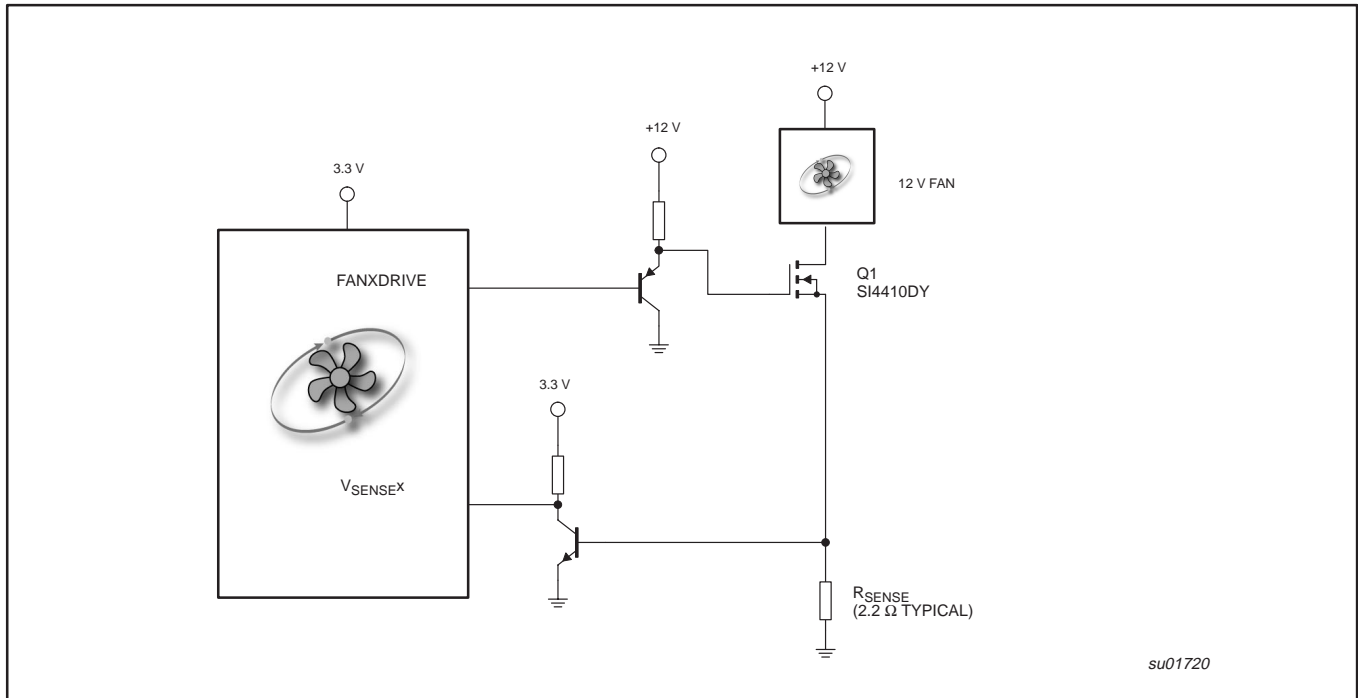

Figure 4. Interfacing the 82CF201 to a 2-Wire fan.
The PWM controls the fan speed proportionally to the thermistor resistance. The 30Hz PWM duty cycle has resistance control range from 10K to 1.75 KΩ (typical for NTC thermistor) for 30% to 98% output duty cycle. The PWM pins drive a low cost PNP transistor to give a good drive into the N-channel MOSFET as the low side power switch element in the system. Example of drive circuits will be shown Figure 4. This output has asymmetric complementary drive. Since the system relies on PWM rather than linear power control, the dissipation in the power switch is kept to a minimum. Generally, very small devices (TO-92 or SOT package) will suffice.
As shown in Figure 4, the V_{SENSE} input is connected to the collector of NPN transistor through an inverting buffer transistor (2N3904 or PMBT3904D) which amplifies the signal from the low-value current sensing resistor in the ground return leg of the fan circuit. During normal fan operation, communication occurs as each pole of the fan is energized.
1.56 V @ $V_{DD} = 3.3$ V). The design of proper sense circuitry is a matter of scaling the R_{SENSE} and the gain in buffer transistor to meet the logic high as shown in Figure 4. Assuming the $V_{BE(min)}$ of the transistor is approx. 0.5 V. Table 1 lists some recommended R_{SENSE} values according to the nominal operating current.
Table 1. Recommended values of R_{SENSE} per Figure 4